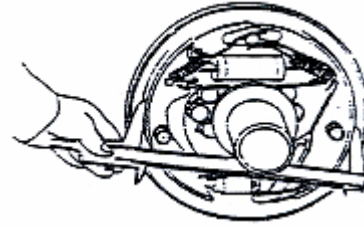

Figure 2-24
(10) Connect the brake pipelines with the wheel cylinders.
(11) Measure the inner diameter of brake drum and outer diameter of brake shoe, and then use the regulator to set the difference between inner diameter of brake drum and outer diameter of brake shoe at 0.3mm-0.5mm. See figure 2-24